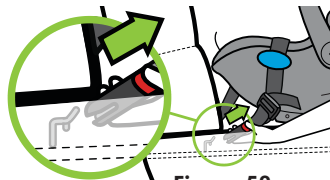

Figure 58
- Press and hold red release button while pulling LATCH Connector as shown in **Figure 58**.